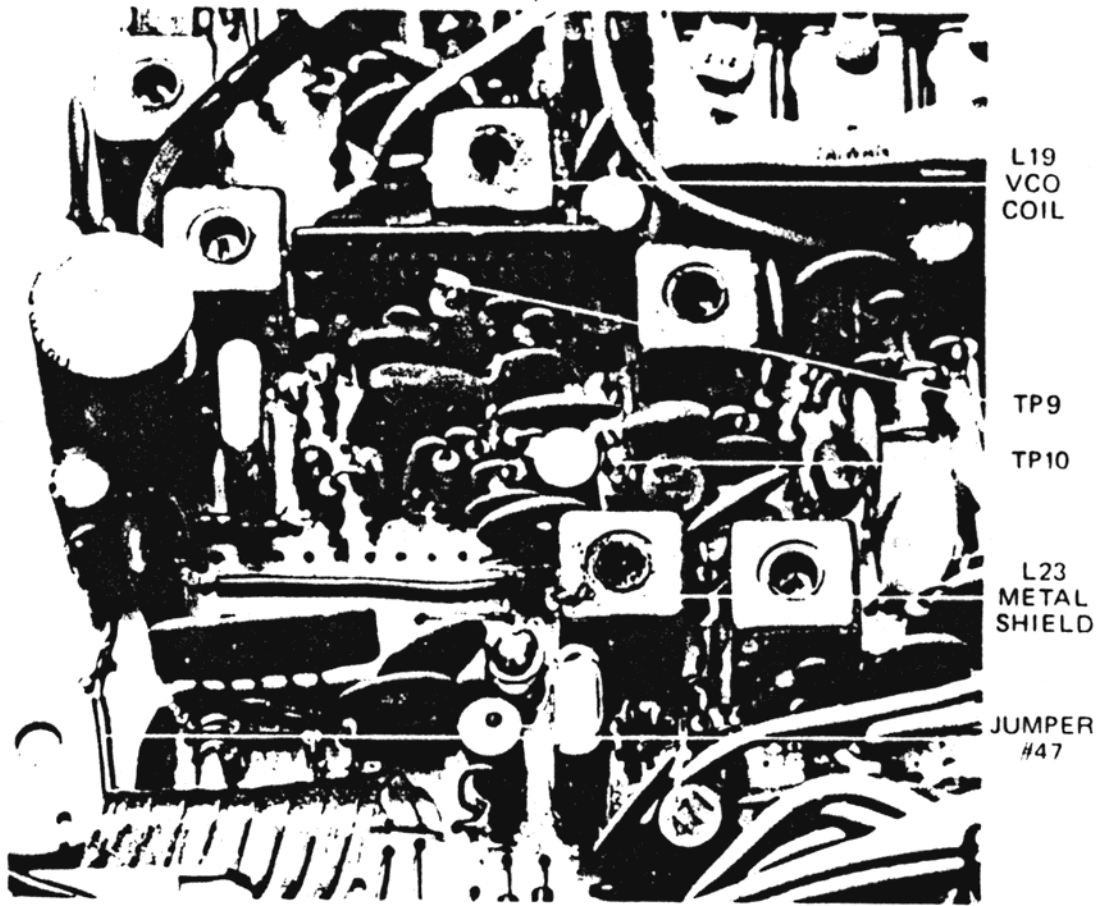

FIG. 4 — LOCATION OF TEST POINTS
11. CUT JUMPER WIRE (see Figure 4, labeled #47), LOCATED BEHIND THE CHANNEL SELECTOR TO COMPLY WITH FCC REGULATIONS.
6. Note: It might be necessary to make some adjustments to the VCO coil located in the radio (see Figure 4) to cover the desired frequency range.